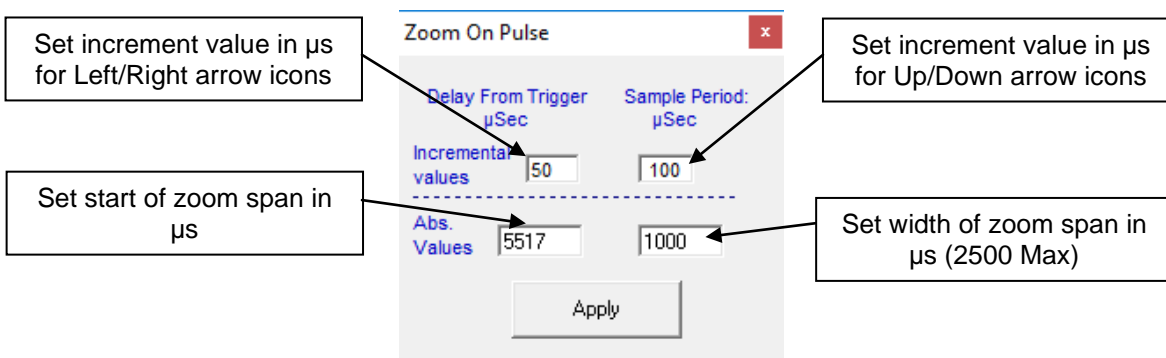

Figure 4.2.4: Zoom on pulse parameters
- Select “Config” from the “Zoom Pulse” menu to manually set the time delay and time span parameters. See **Figure 4.2.4** for details.